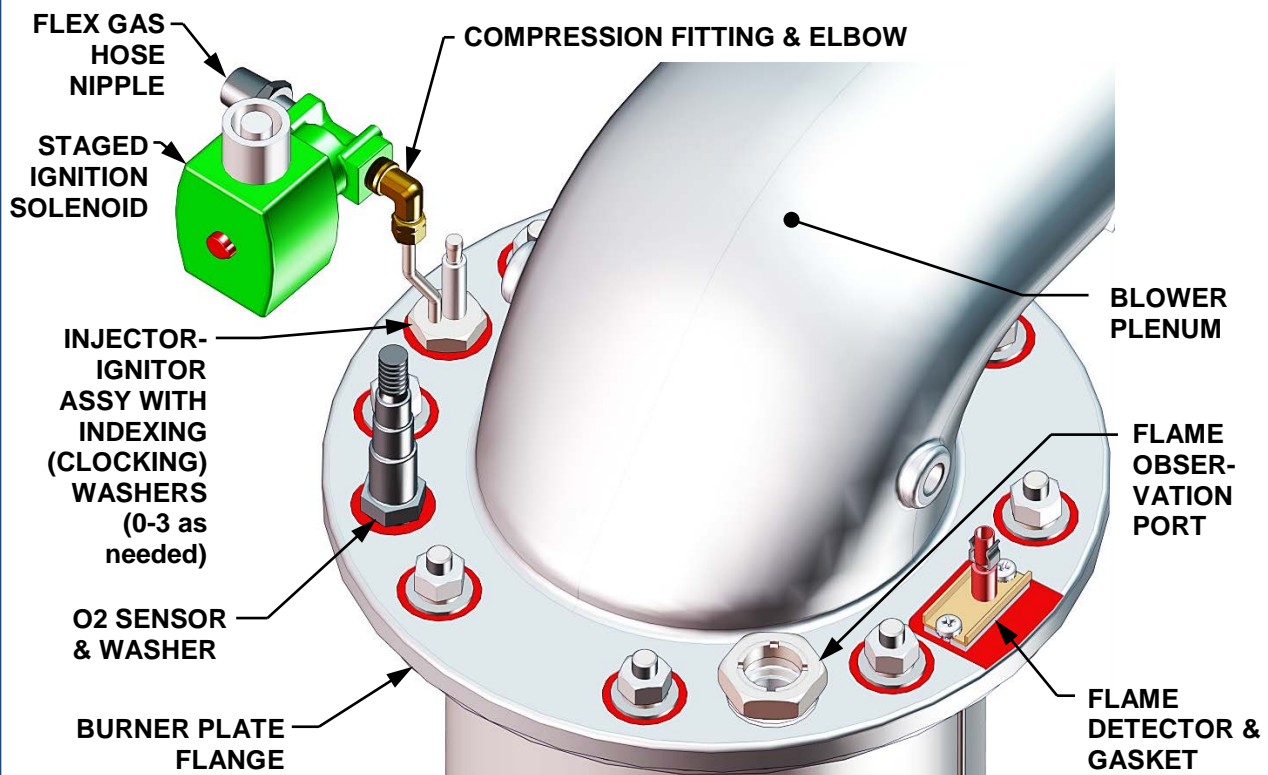

Figure 7-2: Igniter-Injector & Flame Detector Mounting Details
4. Refer to the partial exploded view in Figure 7-2. Using a 7/16" open-end wrench, disconnect the compression nut securing the gas injector tube of the igniter-injector to the elbow of the staged ignition assembly. Disconnect the staged ignition assembly from the igniter-injector.
4. Remove the two (2) screws securing the flame detector to the plate (Figure 7-2). The flame detector is secured to the burner plate with one #10-32 screw and one #8-32 screw.
2. Remove the top shroud from the unit by grasping the top handle and lifting straight up. This will disengage the shroud from the four (4) pins in the side panels.
3. Disconnect the lead wire from the flame detector installed on the burner plate. See Figure 7-2.
4. Remove the two (2) screws securing the flame detector to the plate. The flame detector is secured to the burner plate with one (1) #10-32 screw and one (1) #8-32 screw.
7. Using a 7/16" open-end wrench, disconnect the compression nut securing the gas injector tube of the igniter-injector to the elbow of the staged ignition assembly (see Figure 7-2). Disconnect the staged ignition assembly from the igniter-injector.